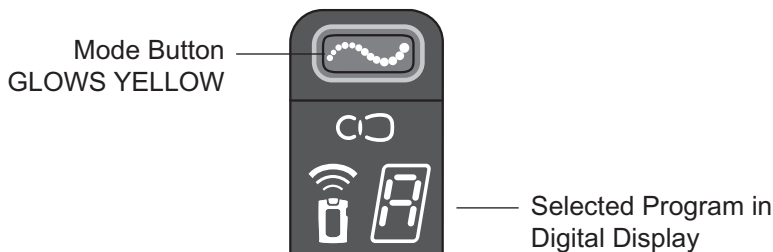

Figure 8-3: Program mode.
2. When the mode button GLOWS YELLOW, the Patient Programmer is in program mode. The letter of the selected program will appear in the digital display. See Figure 8-3.